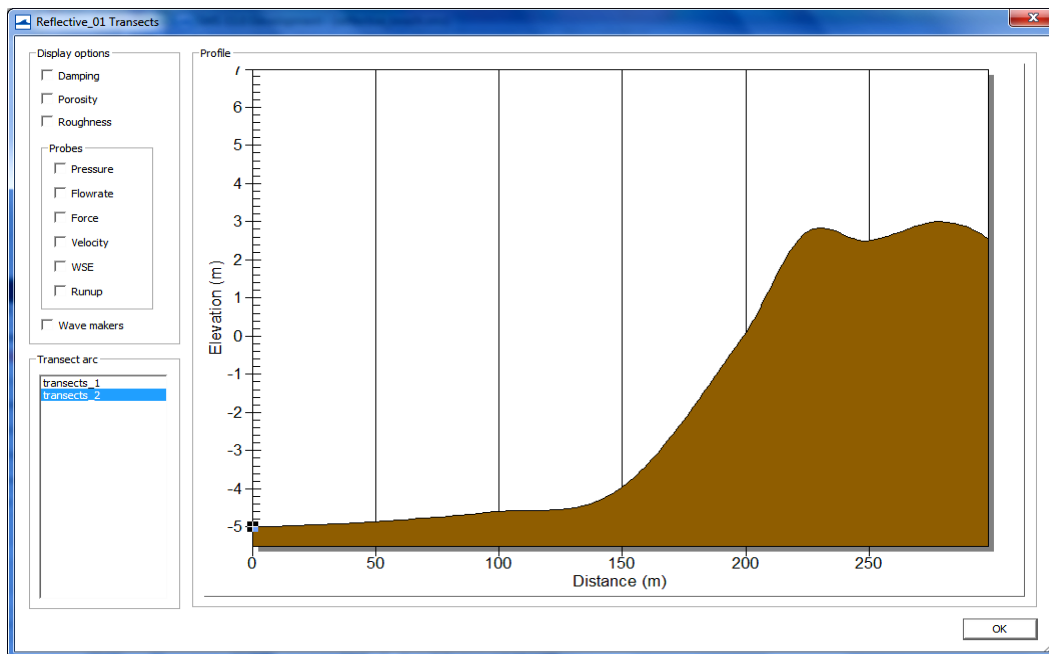

Figure 5 Transect preview.
3. Right click on the “Reflective_01” simulation and select “View transects profile...”. The transect preview dialog appears (Figure 5). This dialog includes a list of the transects on the lower left side. As you select a transect, its profile is displayed in the preview window.